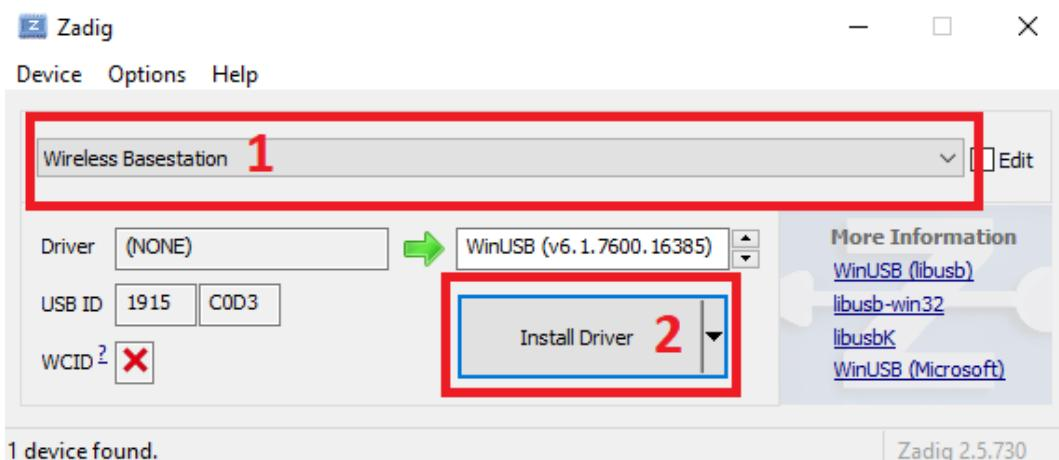

Figure 4.4: USB driver installer for Wireless Base-station.
5. Select *Wireless Base-station* from the dropdown menu (see label 1 in Figure 4.4).
6. Click on *Install Driver* (see label 2 in Figure 4.4).